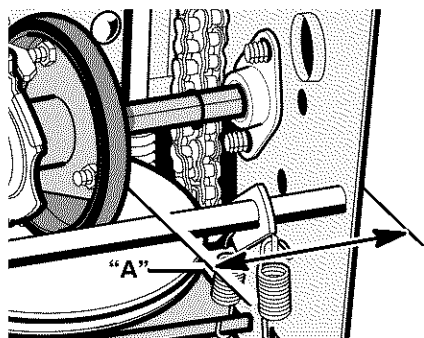

Figure 29
7. Note the position of the **friction wheel** (see Figure 29). The correct distance "A" from the right side of the **friction wheel** to the outside of the motorbox is as follows:
3. Move the **friction wheel** to the correct position (see Figure 29).